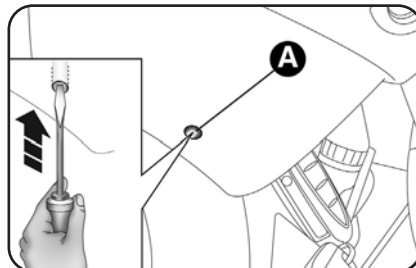

fig. 6
*If the battery is flat and the ignition key is engaged, the latter is locked in position. To remove the key mechanically, proceed as follows: pull the handbrake and fit the supplied screwdriver in the hole under the dashboard (A-fig. 6), slightly pressing, until the ignition key can be removed.*